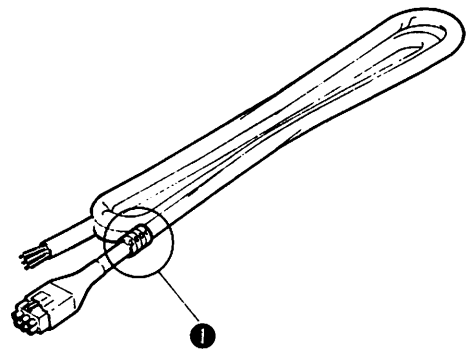

Fig. 48
1. Power supply cord (Figs. 48, 49)
- Check the voltage marking on the power supply cord ① and confirm that it is compatible with the supply voltage.